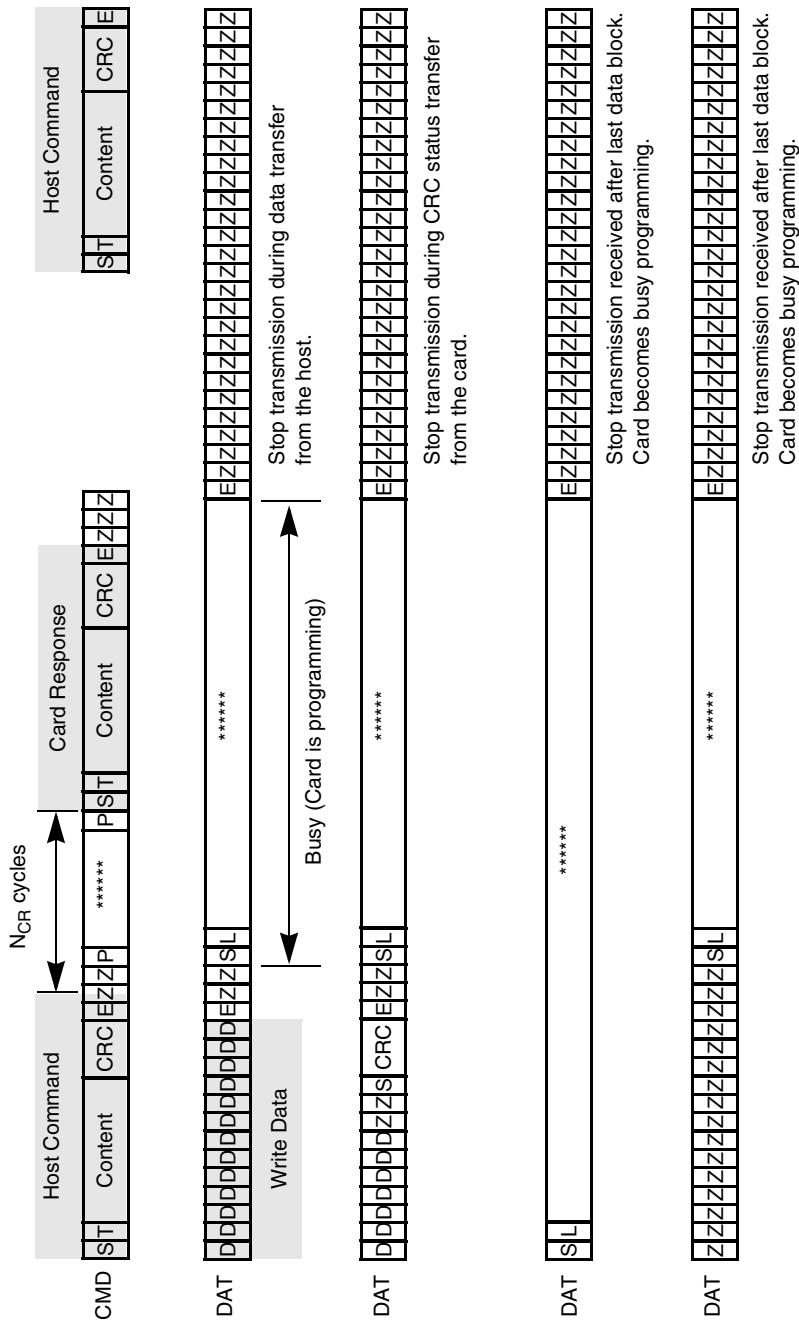

Figure 30. Stop Transmission During Different Scenarios
The card identification and card operation conditions timing are processed in open-drain mode. The card response to the host command starts after exactly  $N_{ID}$  clock cycles. For the card address assignment, SET\_RCA is also processed in the open-drain mode. The minimum delay between the host command and card response is  $N_{CR}$  clock cycles as illustrated in Figure 26. The symbols for Figure 26 through Figure 30 are defined in Table 27.
**Table 27. State Signal Parameters for Figure 26 through Figure 30**
The stop transmission command may occur when the card is in different states. Figure 30 shows the different scenarios on the bus.
Table 28. Timing Values for Figure 26 through Figure 30